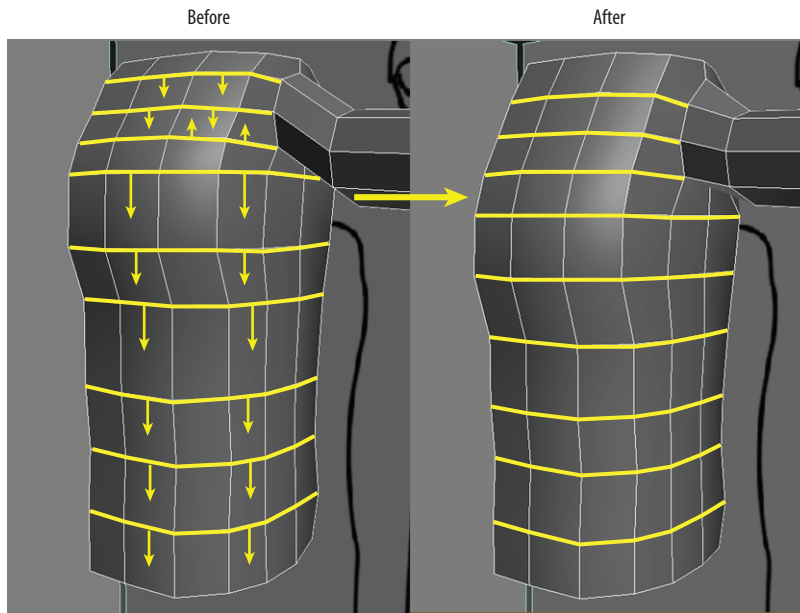

FIGURE 7.19 Move these looped edges down to evenly space the edges along the torso.
6. Repeat the process with the loop of edges under and above the previous loop, as shown in Figure 7.19. Continue until the edges are evenly spaced along the torso.